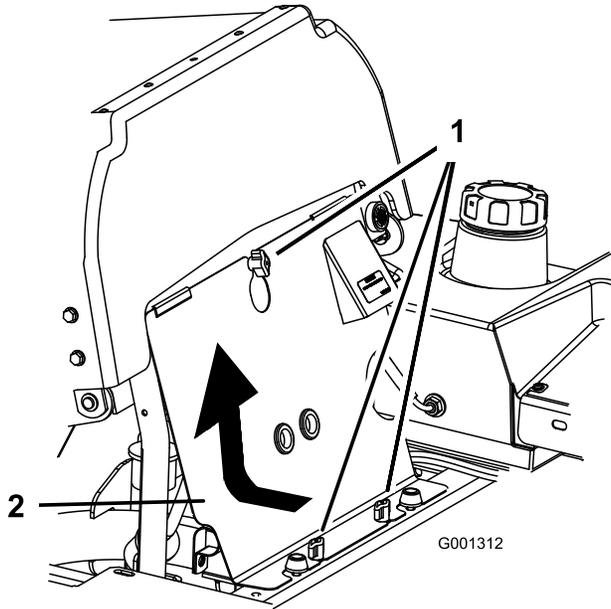

Figure 41
1. Tilt the seat forward and remove the front engine panel (Figure 41).